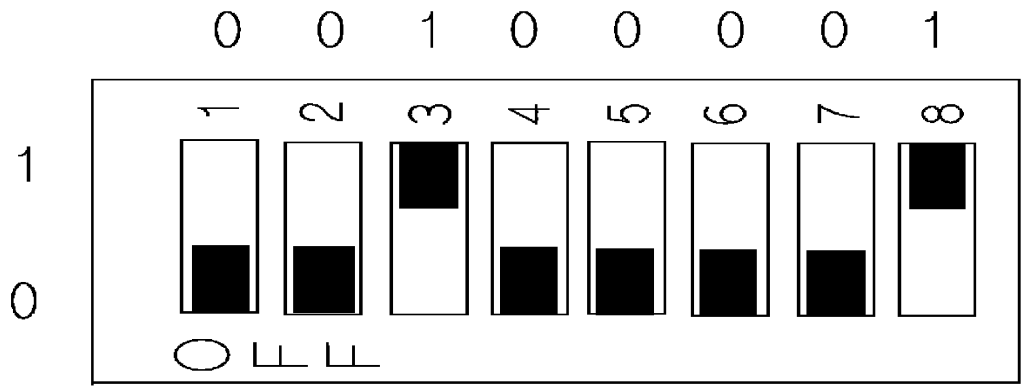

Figure 1.
4. Change the bit switch to '00100001' (refer to Figure 1).